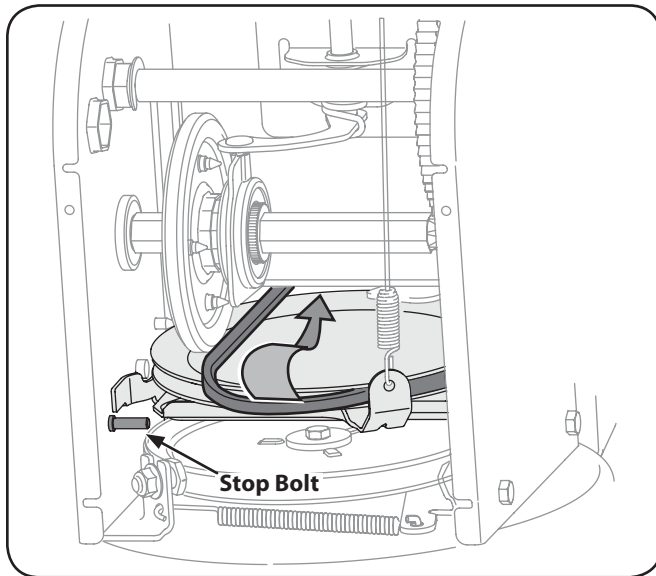

Figure 7-7
- Back out the stop bolt to increase the clearance between the friction wheel disc and friction wheel. See Fig. 7-7.
- Slip the drive belt off the pulley and between friction wheel and friction wheel disc. See Fig. 7-7.